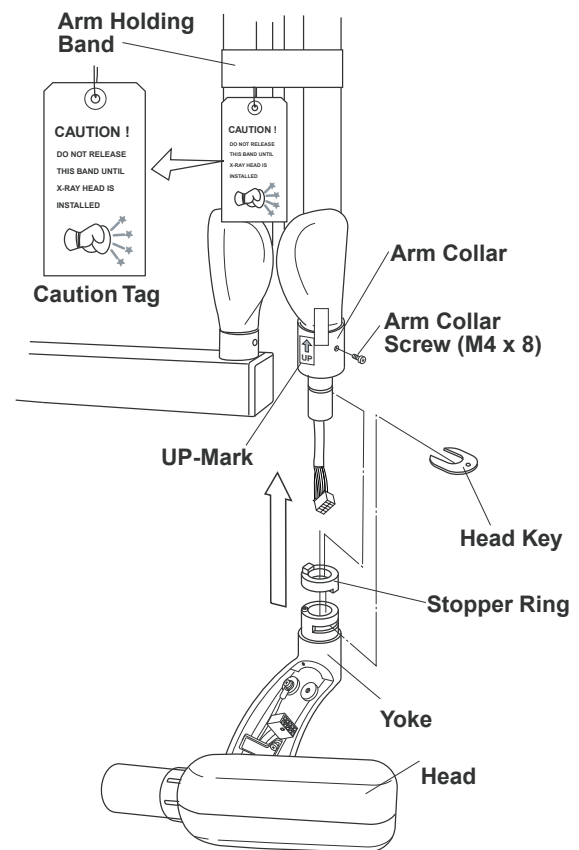

**Fig.3-15** Setting Arm Collar on Balance Arm
1. Remove the arm collar screw (M4 x 8mm) from the arm collar. Slide the arm collar upward and temporarily hold it in position with adhesive tape. (Fig.3-15)